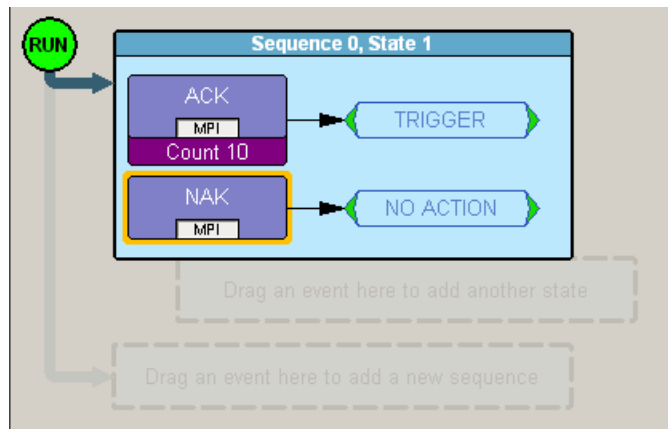

Figure 12.32 Example 3: Creating a Second Event
- Step 3** A NAK Event button appears in the Available Events area. Drag the button to the first cell and drop it below the ACK button (Figure 12.32).